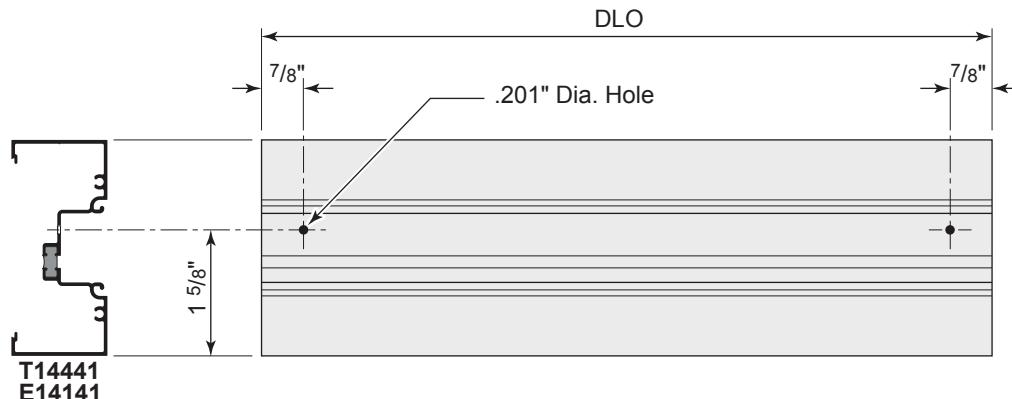

Fig. 27.1
- A. For shear block assembly, drill .201" dia holes in the head, horizontal and sill members as shown in **Fig. 27.1** & **Fig. 27.2**